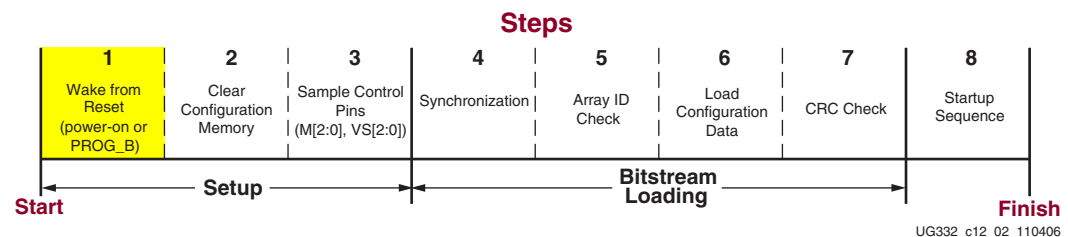

Figure 12-2: FPGA Wake from Reset
1. Hold the **PROG\_B** pin Low, which holds the FPGA in reset, Step 1 shown in Figure 12-2, page 229.